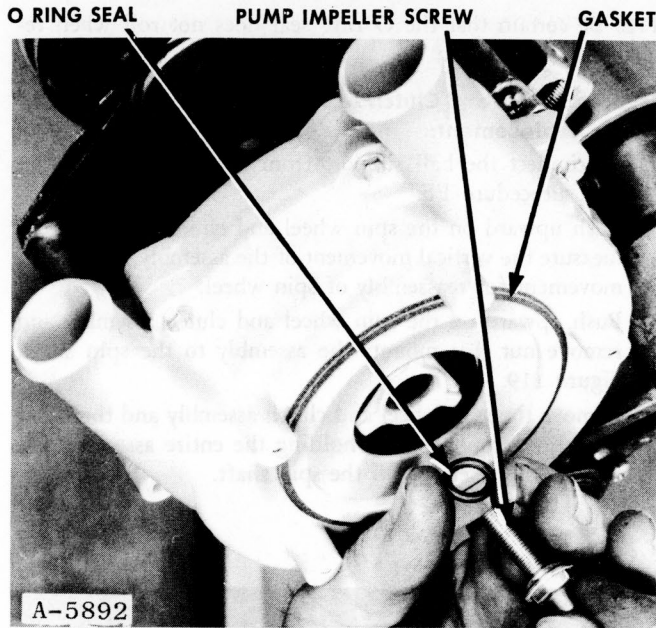

Figure 111
4. Remove the pump impeller screw from the pump assembly, Figure 111.